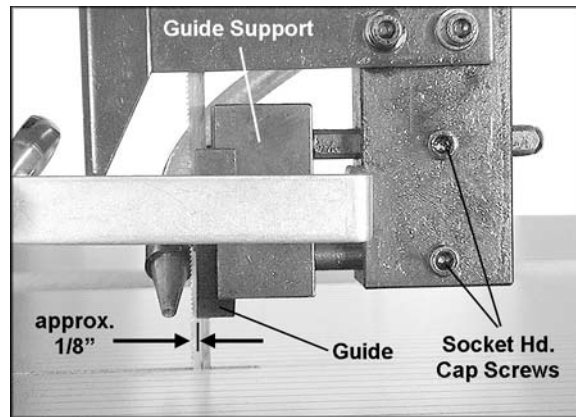

Figure 8
1. Loosen the two socket head cap screws on the guide housing. See Figure 8.
2. Move the guide support forward or backward in accordance with the width of the blade. The front end of the blade guides should be adjusted approximately $1/8"$ behind the blade teeth. See Figure 8.